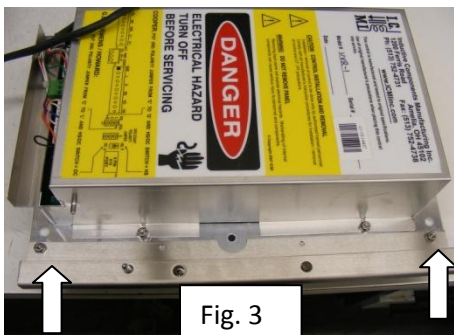

Fig. 3
- Attach Cooper Rail onto 2 studs and secure with the Two 8-32 lock nuts. **See fig. 3**